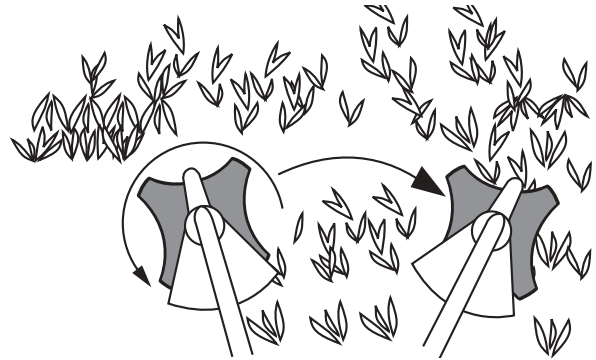

Fig. 13
- Swing the unit into material to be cut from your left to your right (Fig. 13)